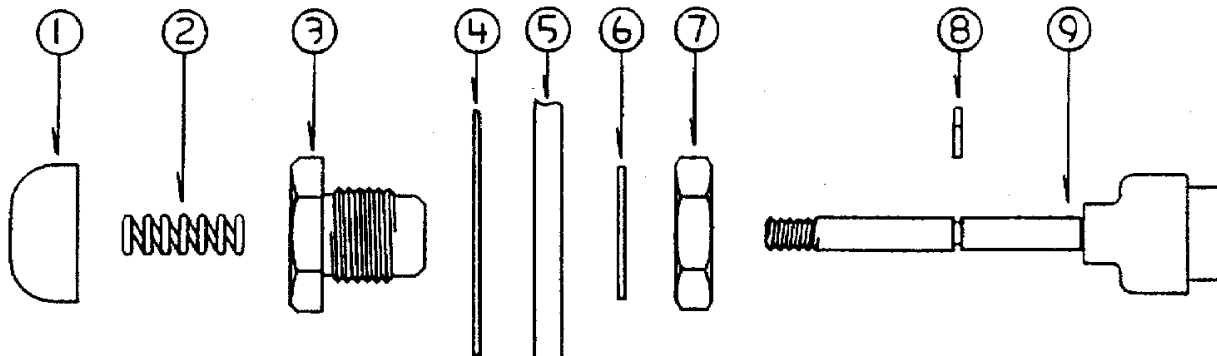

Figure 4 - Pushbutton Assembly - Part Number 82-0482
- H. Assemble the pushbutton assembly (see Figure 4) to front cover. Be sure to place dispense label (Item No. 4) on unit before installing pushbutton components. *You must tighten jam nut (Item No. 7) on rear of front cover to prevent damage to dispense label.*